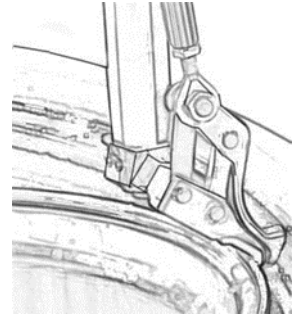

Fig 14
- a) Flick the switch valve to return the automatic mount/demount head to its resting position (**Fig 14**). Put the tire on the rim slightly tilted, and place the bead's another edge above the back of the mount/demount head and the other below the front of the mount/demount head. Press the tire with your hand or the assist arm's tire pressing roller and rotate the turntable to mount the lower bead.